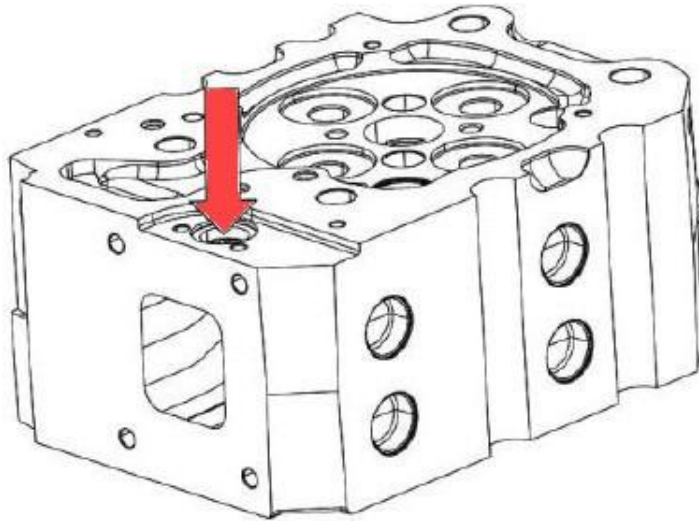

Figure 60. Cylinder Head Outlet
2. Connect an air inlet onto the water outlet of the cylinder head. Immerse the cylinderhead in a tank of water and increase pressure up to 5 bar (Figure 60).